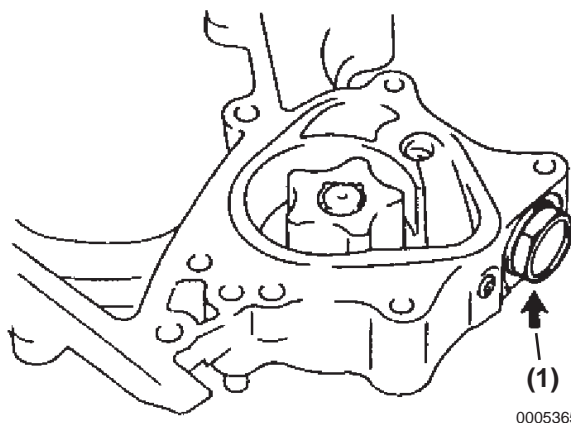

Figure 8-13
1. Install the relief valve and spring (**Figure 8-13, (1)**) into the mounting holes in the timing gear case.